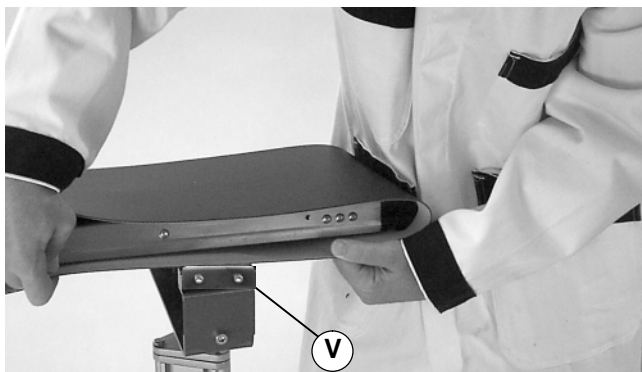

Figure 25
11. Loosen the mounting clamp plates (V of Figure 25), on both sides of the conveyor. Raise the conveyor and remove the belt.
6. Loosen the mounting clamp plates (V of Figures 25), on both sides of the conveyor. Raise the conveyor and replace the belt.